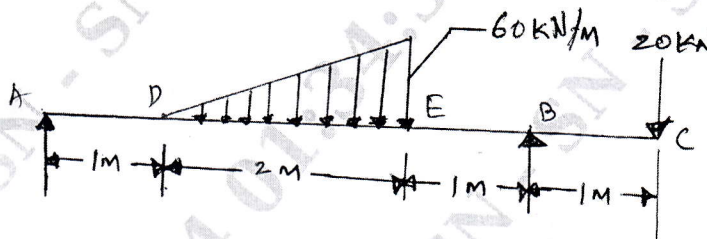

Fig.Q5(b)
- b. Draw the BMD and SFD for the overhanging beam shown in Fig.Q5(b). Find also point of contraflexure with corresponding value of bending moment.